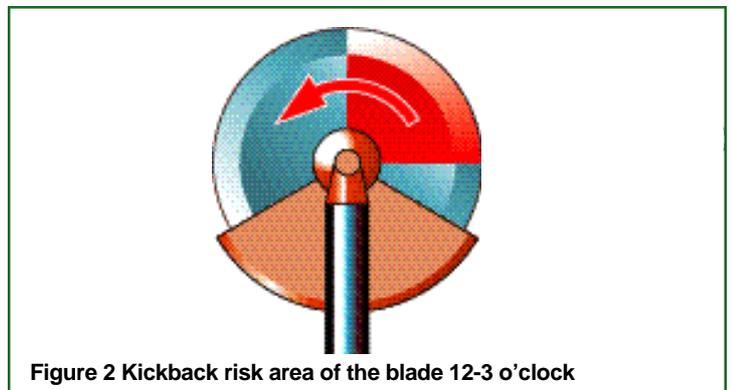

Figure 2 Kickback risk area of the blade 12-3 o'clock
- 7 Kickback is the uncontrolled backward and/or upward motion of the clearing saw blade. It happens when a section of the blade (see Figure 2) contacts an object such as a log or branch or when the wood pinches the saw blade in the cut.